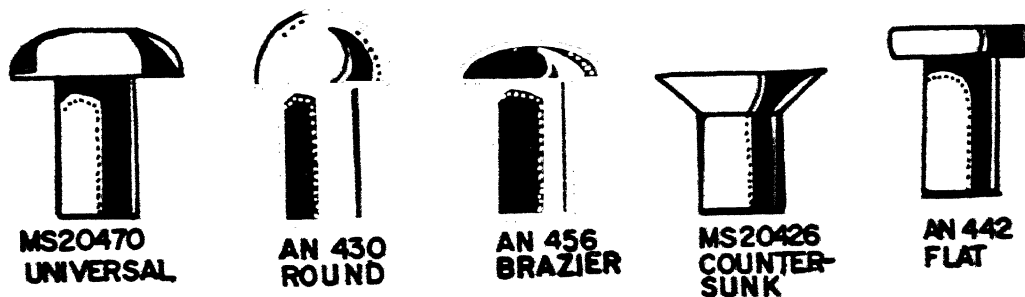

FIGURE 10-1.--Common solid shank rivets.
1. Besides the metal surfaces, which are readily seen, many different kinds of hardware are used in assembling an aircraft--rivets, screws, bolts, nuts, washers, pins, bonding wire, turnlocks, fasteners, etc. Rivets are used extensively as fastening devices. The common solid shank rivet, shown in figure 10-1, is used in fastening together an aircraft structure when both ends of the rivet are accessible. Its head may be one of several styles. Of these, the universal head rivet is used for both interior and exterior applications, and the countersunk head rivet is used on the exterior of an aircraft where a smooth aerodynamic surface is desired.